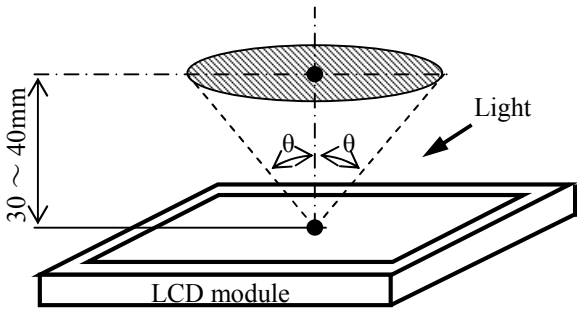

Fig. 9.1 Inspection view
(1) Viewing zone
- a) Fig.9.1 shows the correspondence between eyes (of inspector) and LCD module.